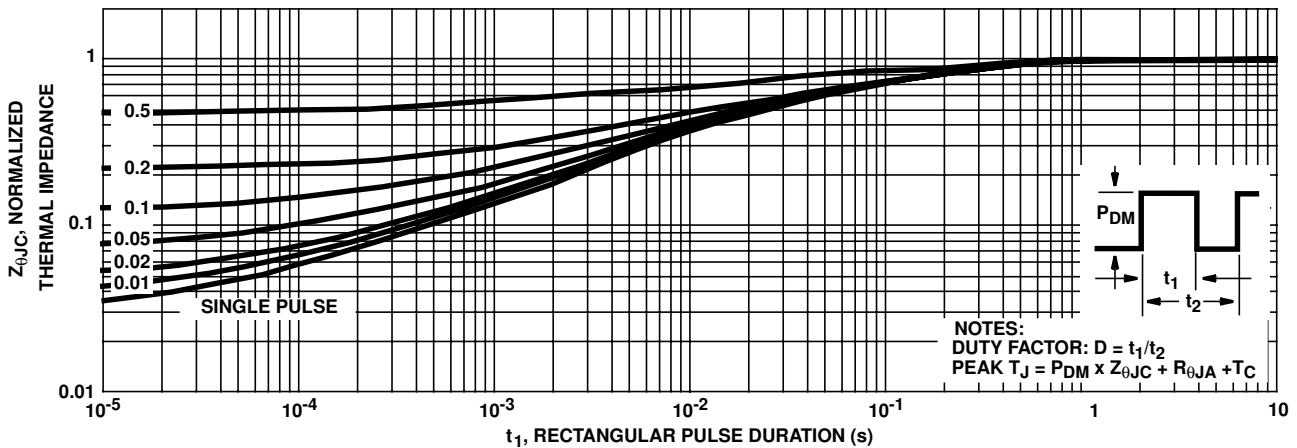

FIGURE 3. NORMALIZED MAXIMUM TRANSIENT THERMAL IMPEDANCE
3. Repetitive rating: pulse width limited by max junction temperature. See Transient Thermal Impedance curve (Figure 3).